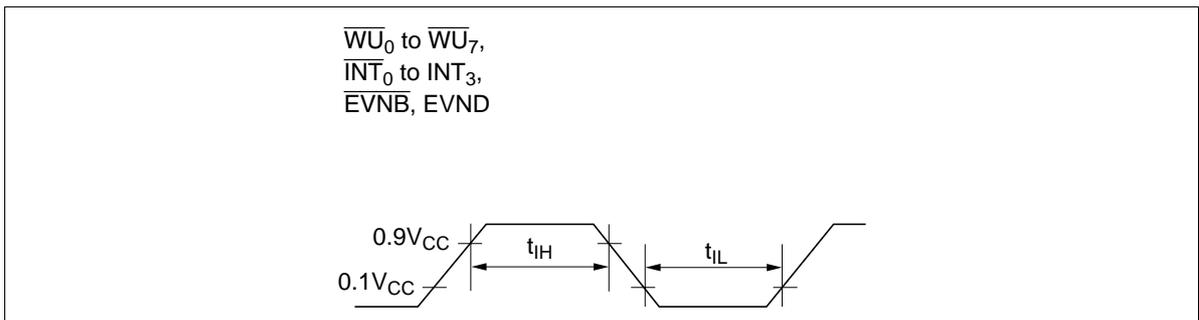

Figure 89 Interrupt Timing
- Refer to figure 89. The t_{cyc} unit applies when the MCU is in standby or active mode. The t_{subcyc} unit applies when the MCU is in watch or subactive mode.